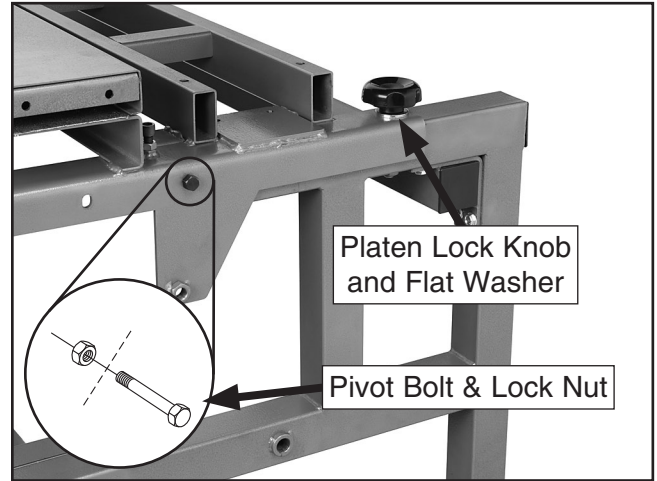

Figure 17. Pivot bolt, nut, and knob.
7. Secure the motor and platen assembly with the pivot bolts, lock nuts, platen lock knobs, and 1/2" flat washers, as shown in **Figure 17**.